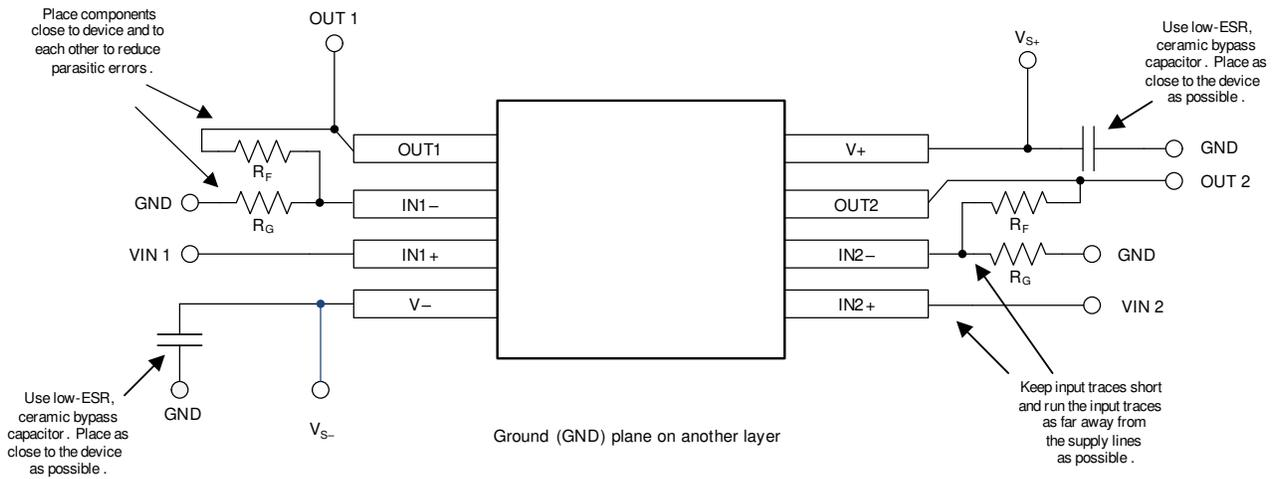

Figure 8-4. Layout Example
- Place the external components as close to the device as possible. As illustrated in 図 8-4, keeping R_F and R_G close to the inverting input minimizes parasitic capacitance on the inverting input.